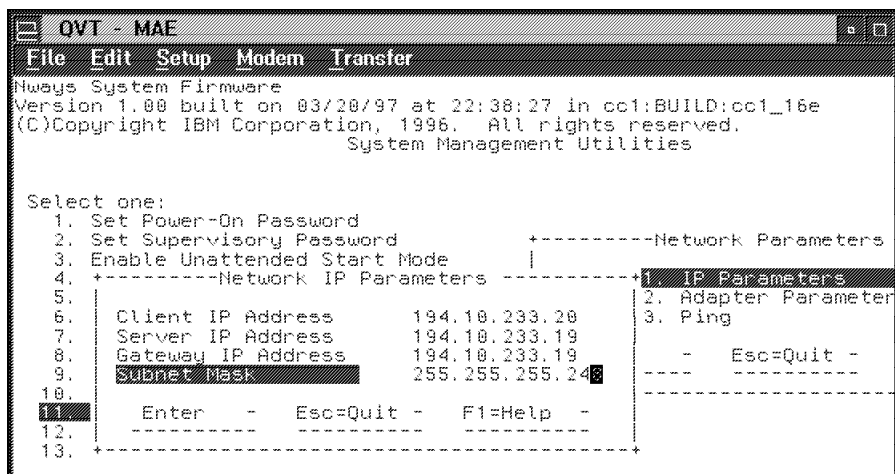

Figure 1-24. QVT - MAE
8. \_\_\_\_ Refer to Figure 1-24, enter the **Client IP address** (MAE address of the PCMCIA card), **Server IP address** (service processor address), **Gateway IP address** (if no router on the ring, enter the service processor IP address), then press **Enter**.